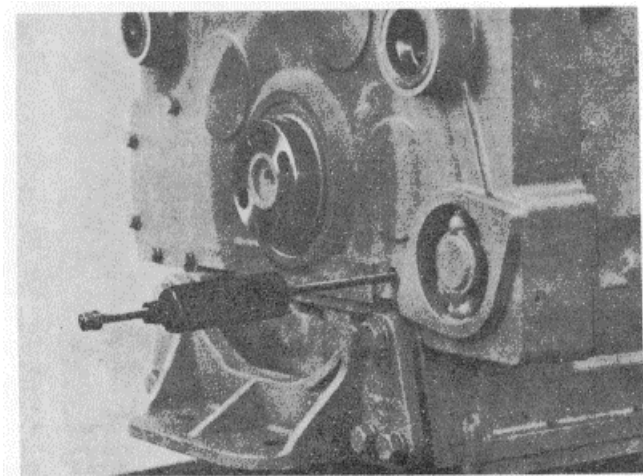

Figure 16B-44 Remove the Master Dowel
3. Remove the front gear cover, Figure 16B-45.